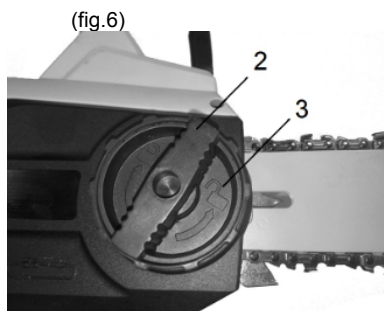

Fig.6
4. Loosen the nut (2) by turning it anti-clockwise approximately 1-2 turns. (fig.6)
5. Turn hand wheel (3) in a clockwise direction until the correct chain tension is reached.
7. Tighten the nut (2) by turning it clockwise. (fig.6)